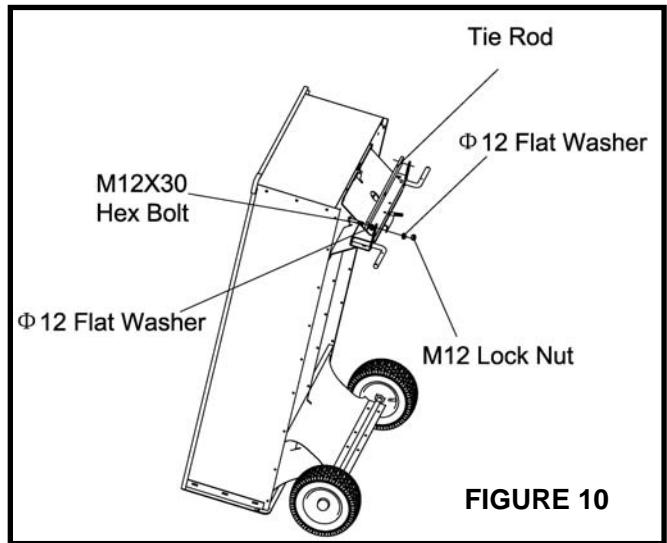

FIGURE 10
24. Assemble the tie rod to the axle spindles using two M12X30 hex bolts, four Ø12 flat washer and two M12 hex lock nuts, Tighten, leavind ollse enough that the spindles still pivot. See **Figure 10**.